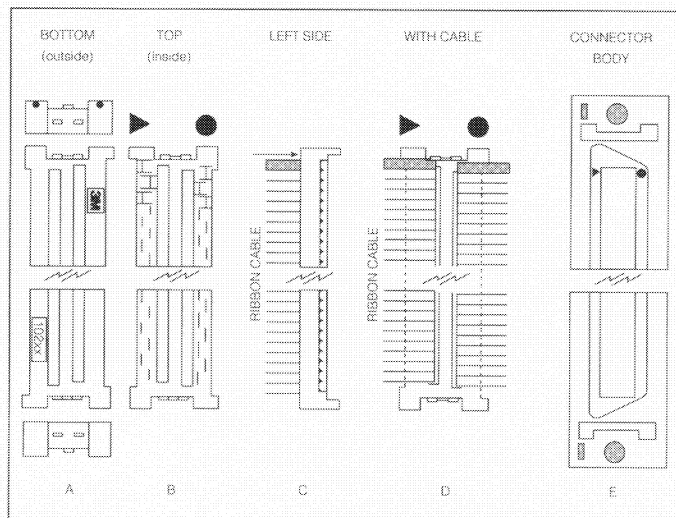

Figure 3
NOTE: The cable should enter the cover through the bottom (C of Fig. 3), with the extended portion exiting upwards and resting in the cable grooves.
2. With the narrow latch opening OPPOSITE the operator, insert the cable/cover sub-assembly into the cutout in the locator plate until the cover seats between the cable guides (D of Fig. 3).
5. Place the connector body, with narrower connecting latch OPPOSITE the operator (E of Fig. 3), in the nest between the connector guides.